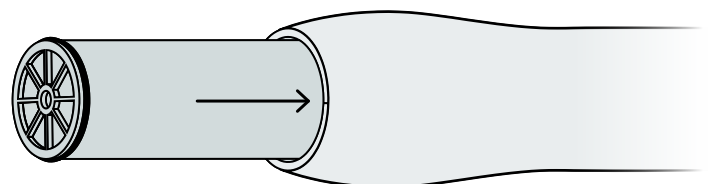

Figure 2: Insertion of first RO element.
2. Gently insert the first element two-thirds of its length into the vessel (**Figure 2**). Lubricate the brine seal thoroughly, using glycerin or silicon-based lubricants. Make sure that the brine seal sits properly in the seal groove on the anti-telescoping device.